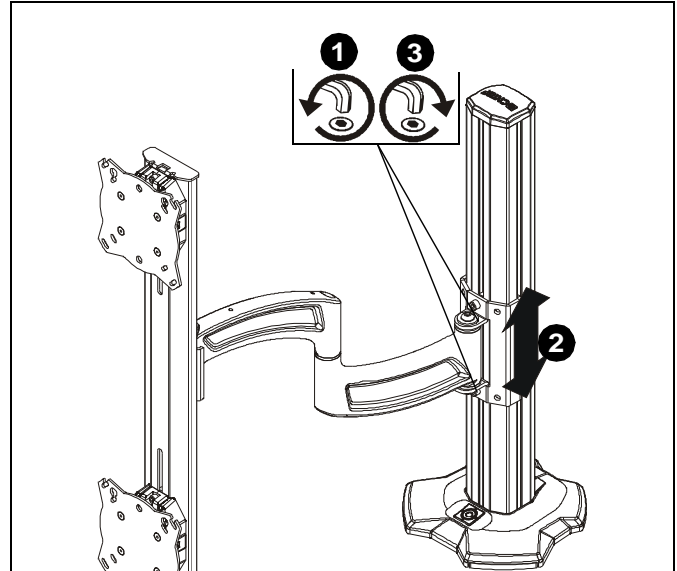

Figure 15
1. Loosen 1/4-20 x 1/2" socket head carriage screws (B1) holding column arm (X) to column (V). (See Figure 15)
2. Adjust column arm to desired height. (See Figure 15)
3. Tighten 1/4-20 x 1/2" socket head carriage screws (B1) to lock column arm's position. (See Figure 15)